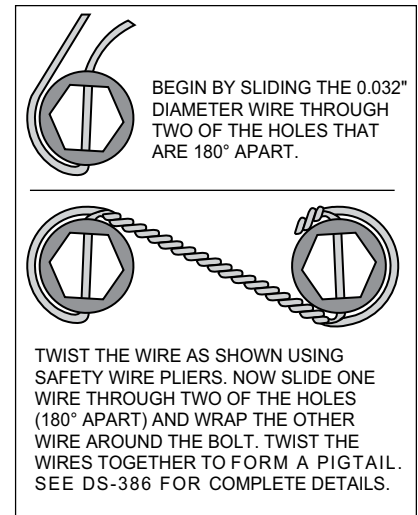

Figure 4. Safety Wire Diagram
- Install the grease seal (9) by pressing into the backside of the hub (7).
- Attach rotor adapter (10) to rotor (11) using six bolts (12). Torque bolts (12 to 180 in-lb. Safety wire bolts (12) using standard 0.032 inch diameter stainless steel safety wire as shown in Figure 4. Please refer to Wilwood's data sheet DS-386 (available at www.wilwood.com/Pdf/DataSheets/ds386.pdf) for complete safety wire installation instructions. **NOTE:** The flat side of the rotor (11) lugs face toward the rotor adapter (10) with the dished side of the rotor adapter (10) facing away from the rotor (11).